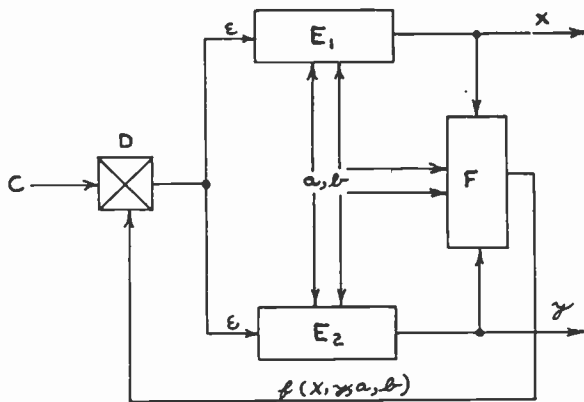

Fig. 1—Block diagram of mechanism.
The principle of operation can be explained by reference to Fig. 1. The two outputs of the mechanism are denoted there with x and y . Let the constraint be written generally as
where a , b , and often also c , are parameters which vary with time. The block marked F in Fig. 1 represents a
The mechanism whose discussion is the topic of this article can, in principle, solve problems of this type. It does not, however, rely on discrete sampling of data, as has been so far used in the present example, but accepts data continuously. The function unit F in Fig. 1 would, in this application, generate the quantity
The parameters a and b are characteristic of the hyperbola along which the aircraft is located in each instant, and they vary as the aircraft moves. The quantity c in (1) is unity here. The outputs x and y of the mechanism could, at the start of the operation, be arbitrary. Hence, as a rule, a discrepancy will exist between $f(x, y; a, b)$ and c , and an error signal will be developed at D (Fig. 1). The error signal will drive x and y , and, if the "equalizing" units E_1 and E_2 are properly designed, the outputs will approach the aircraft co-ordinates; that is, the discrepancies